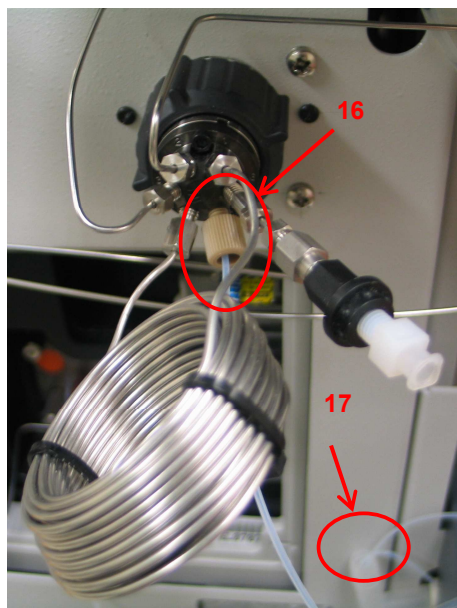

Figure 19: Attaching the loop overflow tubing
22. The last position on the preparative injection port is taken by the injection loop overflow tubing. Use the PTFE tubing, ferrule and the PEEK nut and connect the overflow tubing to position 5 (**16**) on the preparative manual injection port. Thread the loop into the waste tube (**17**) (*Figure 19*)